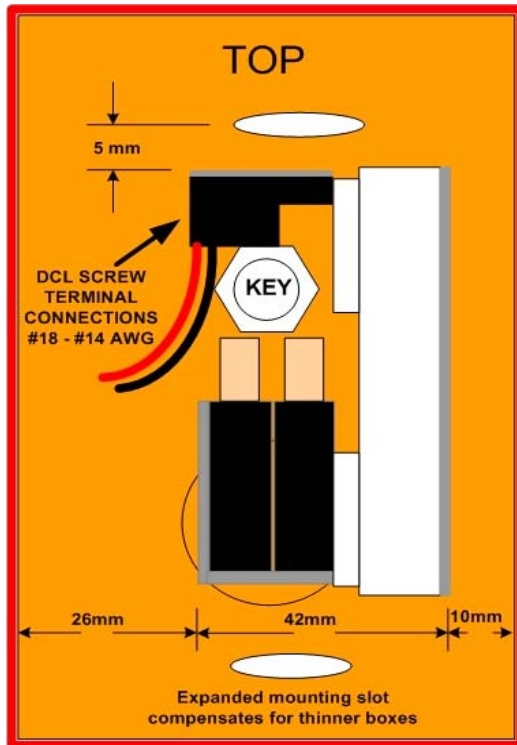
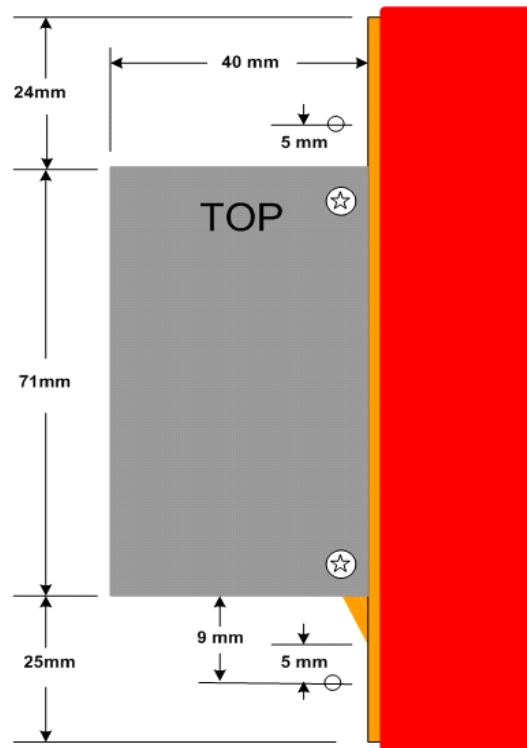

Figure 2.3.1 FI-MPS Series Addressable Manual Station (Rear View)
Figure 2.3.2 FI-MPS Series Addressable Manual Station (Side View)
- most recessed single gang deep electrical boxes, dependent on the box fill and conduit entries. See detailed manual station dimensions in Figure 2.3.1, 2.3.2, 2.3.3 and 2.3.4 to verify if the installation is compatible.
Figure 2.3.1 and Figure 2.3.2 illustrate the rear and side views of the FI-MPS Series Addressable Manual Station.